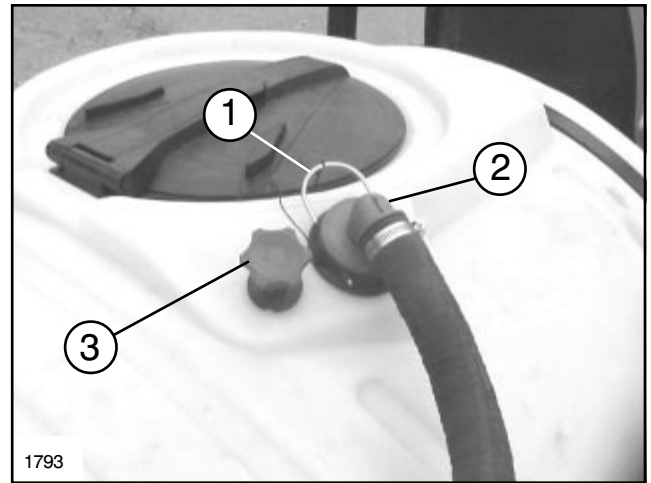

FIG. 6
10. TANK DRAIN CONTROL: Turn knob counterclockwise to open drain valve in bottom of tank. Turn clockwise to close valve. See FIG. 6.